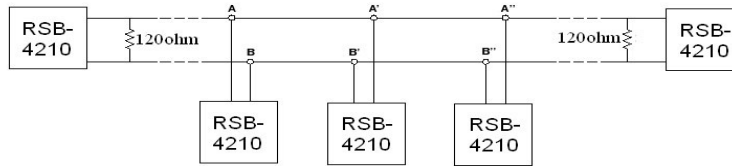
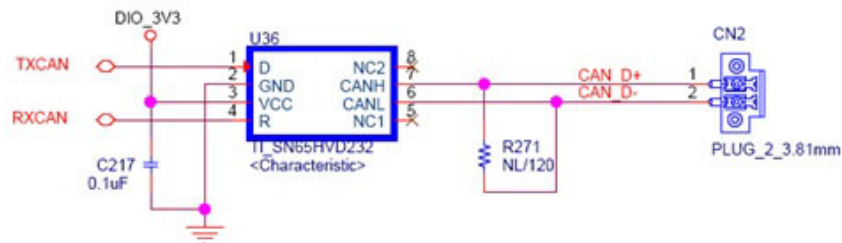

Figure 2.4 CAN Application
Figure 2.5 Schematics of CAN on RSB-4210
**Note!** For CAN applications, the two ends of the cable will have a termination resistor connected across the two wires. Without termination resistors, reflections of fast driver edges can cause multiple data edges that can cause data corruption. Please refer to Figure 2.4 and Figure 2.5 to adding a termination resistor (120 ohms) on your end device (R271 of RSB-4210, default is none) to avoid this situation.